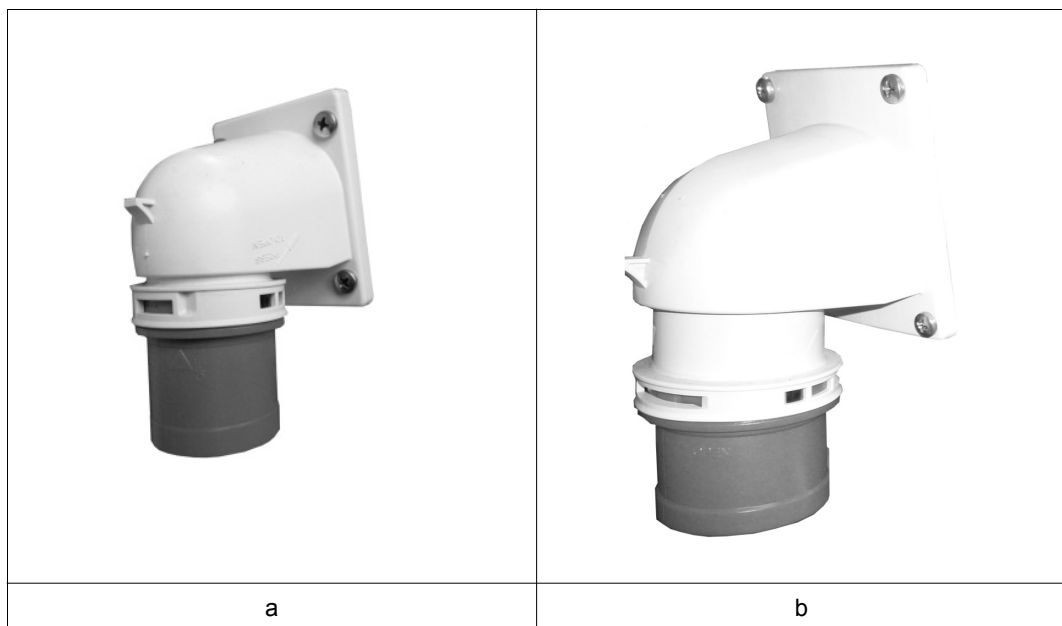

Figure 5/3: Electrical connection at the Milk Shuttle (examples)
3. Connect the other end of the connecting cable to the outlet of the "Milk Shuttle" (see figure 5/3).